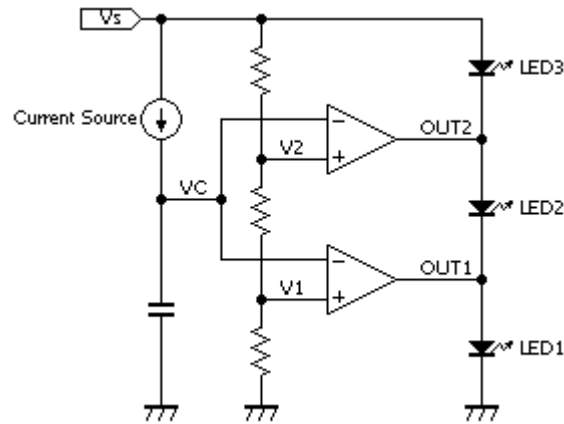

Figure 4. Basic Circuit
Figure 4 indicates basic idea of the controller. Current Source charges the capacitor. Voltage of capacitor (VC) go up with the following equation:
Table 4. Output Status of Figure 4
From Table 4 and Figure 4, LED lights when LED has voltage difference.